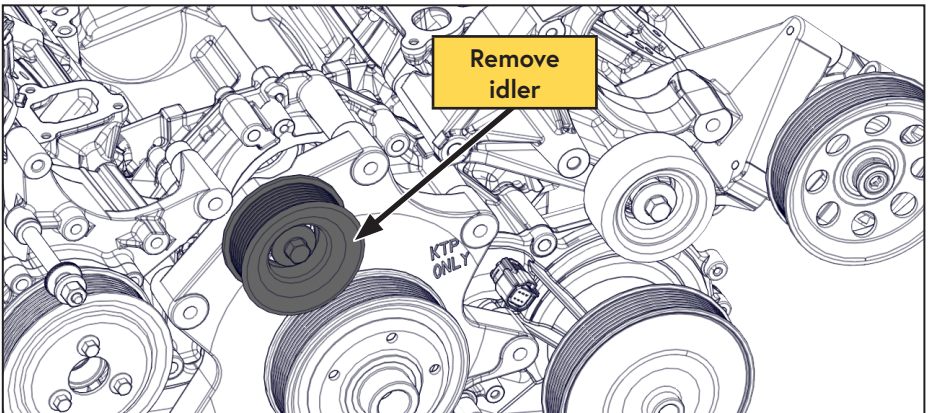

Figure 9 — Preparing for main bracket installation
- Remove the idler beside the power steering pump and set aside for later (Figure 9).